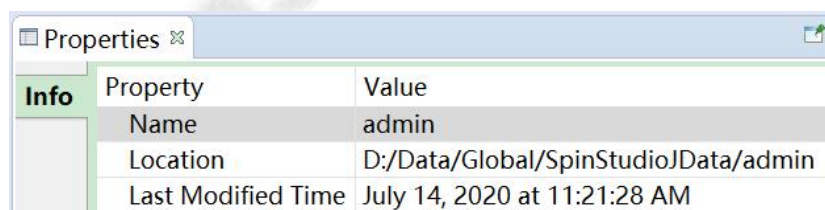

Figure 1.68 Right-click property panel for user node
⑥ Refresh: Refresh the data navigation interface
⑦ Properties: The property panel will pop up on the right side of the workspace, which mainly contains the user name, local path and last modification time, as shown in Figure 1.68.